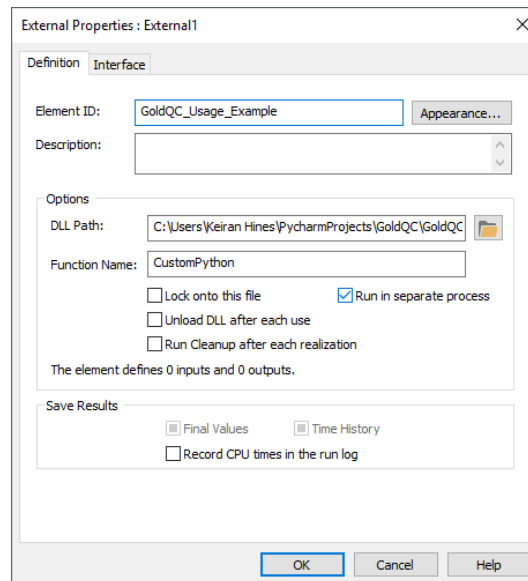

Figure 6: Configuring External Element Part 1
3. The External Properties dialog will pop up. In the DLL path specify the path to the needed GoldQC.dll file, in this example I am using the GoldQC_x64.dll file. In the Function Name field type "CustomPython". Finally tick the "Run in separate process" dialog box. See Figure 6.